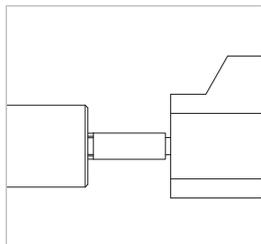

Figure 3
- ▶ Grip the test piece and plug it up to the stop straight onto the connector (Figure 3). Doing so will prevent any damage to the front seal caused by any sharp edges on the test piece and ensure a correct connection.